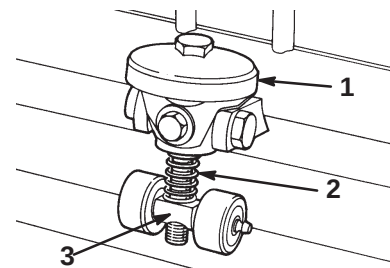

Figure 15
1. Remove the mower from the traction unit and position it on a level work surface. Make sure there is no reel contact by turning the bedknife adjustment knob counterclockwise (Fig. 15).
2. On either end of the front side of the reel, insert a long strip of newspaper between the reel and bedknife. While slowly rotating the reel forward, turn the bedknife adjusting knob (Fig. 15) clockwise, one click at a time, until the paper is pinched lightly, which results in a slight drag when paper is pulled.